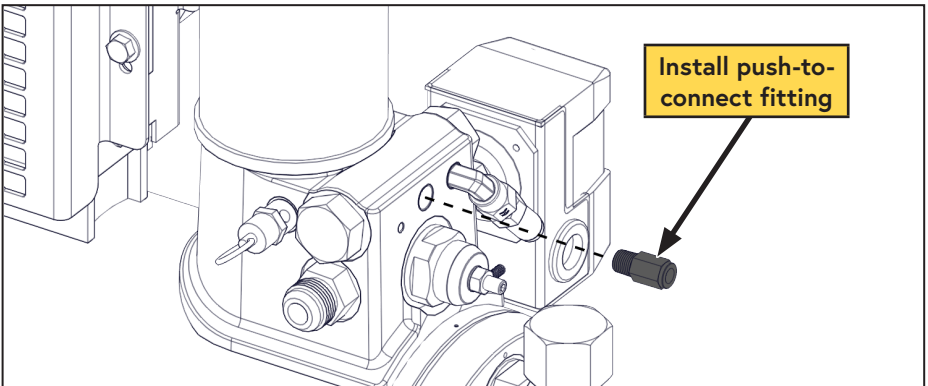

Figure 35 — Install push-to-connect fitting
- Apply Loctite 567 (thread sealing) compound to the 1/4 in push-to-connect fitting and install it into the threaded hole which previously held the blowdown muffler (Figure 35).